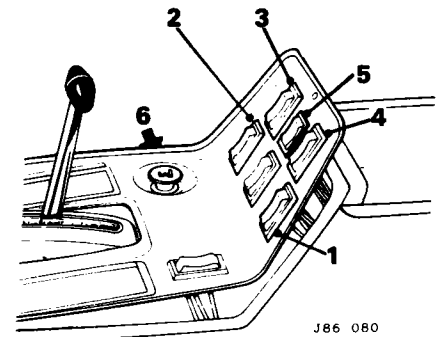

Fig. 34 J86 080
To remove L.H. front (1), R.H. front (2), R.H. rear (3), L.H. rear (4) or the master window lift switch (5, Fig. 34).
Raise the cover and disconnect the cigar light cables (6, Fig. 34).